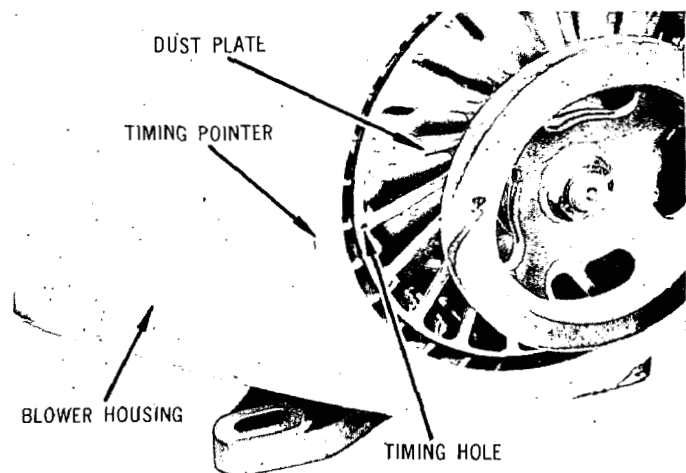

Fig. 7-5-2
For timing adjustment, the following alignment marks are provided: (see Fig. 7-5-2)
- 3) Turn engine over slowly with the rope pulley in the clockwise direction, until the timing hole in the dust plate lines up with the ▲ mark on the blower housing. See Fig. 7-5-2. If the timing light just went out (or on, if an alternate type light is used) as the two timing marks came into alignment, one of the two cylinders is in correct timing.